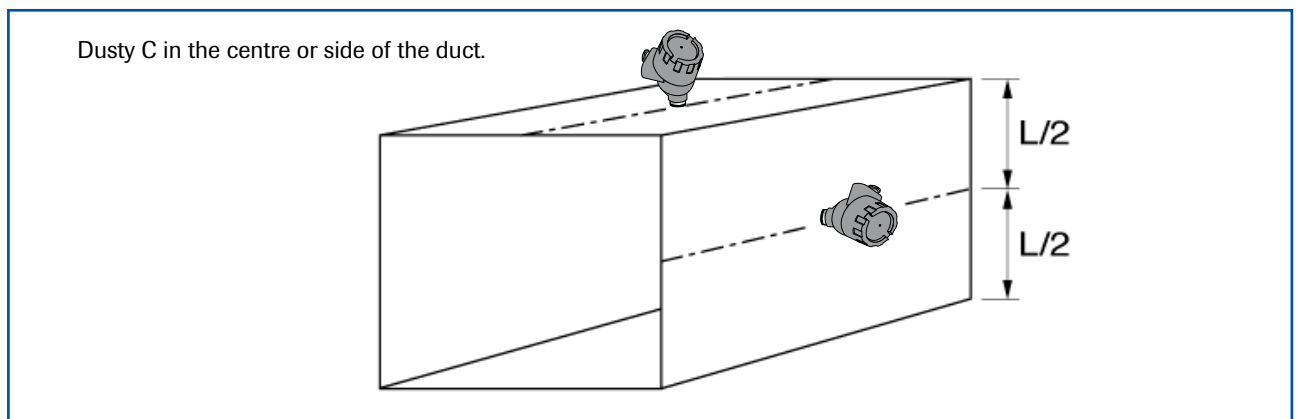

Fig. 2b: Square cross-section
3. In horizontal pipes with a square cross-section, the system can be installed in the centre at the top or side. (See figure 2b)